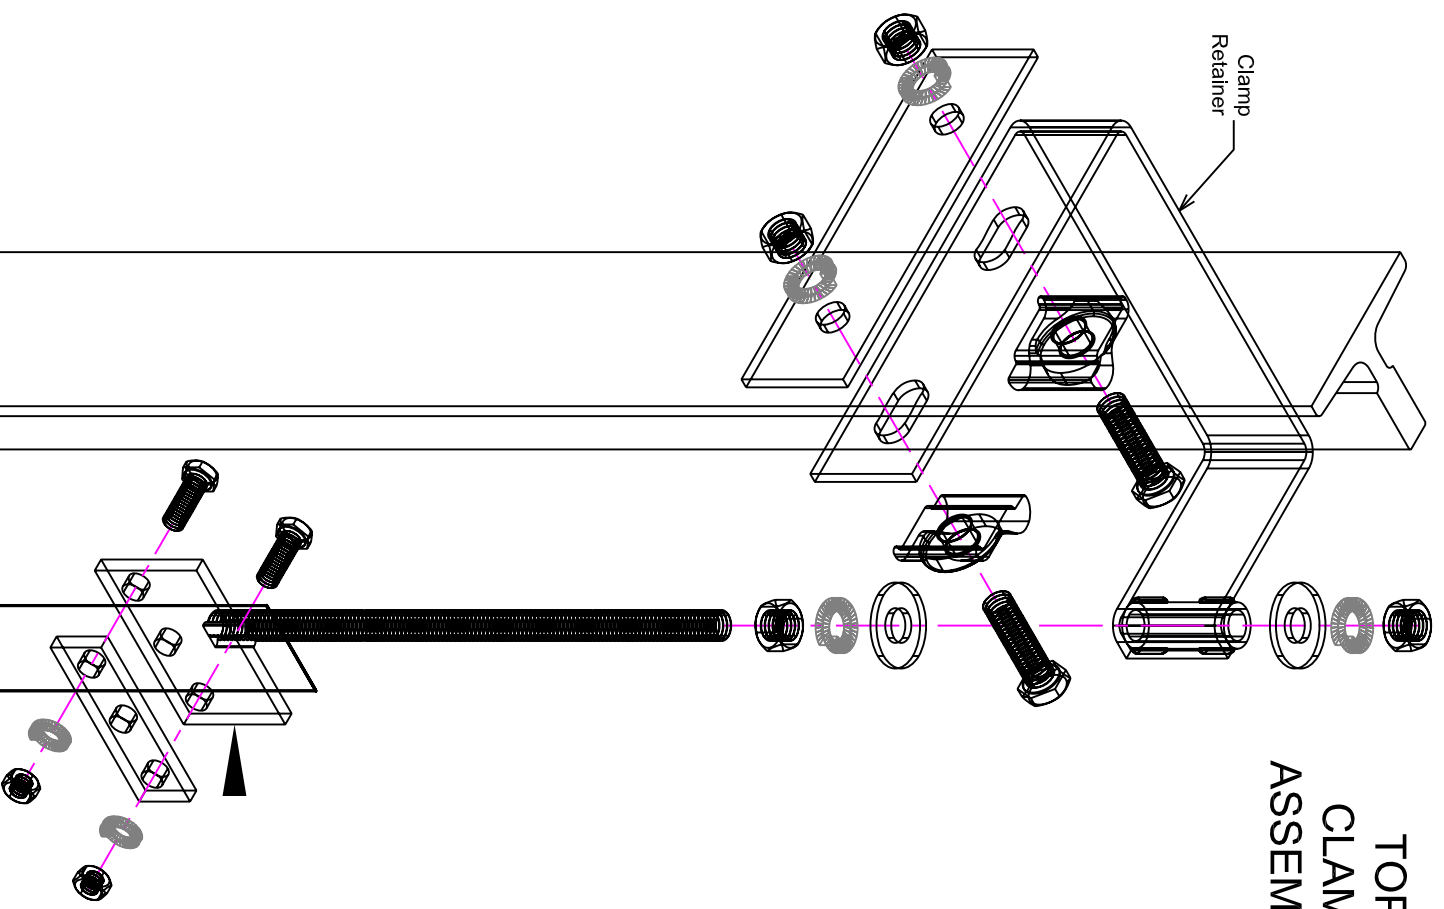

FIG. 1A
5. Install the top clamp into the top clamp retainer tube with a washer and two hex nuts as shown in FIG. 1A. For now, have the hex nuts at the end of the threaded rod. Carefully unroll the tape and let it hang.